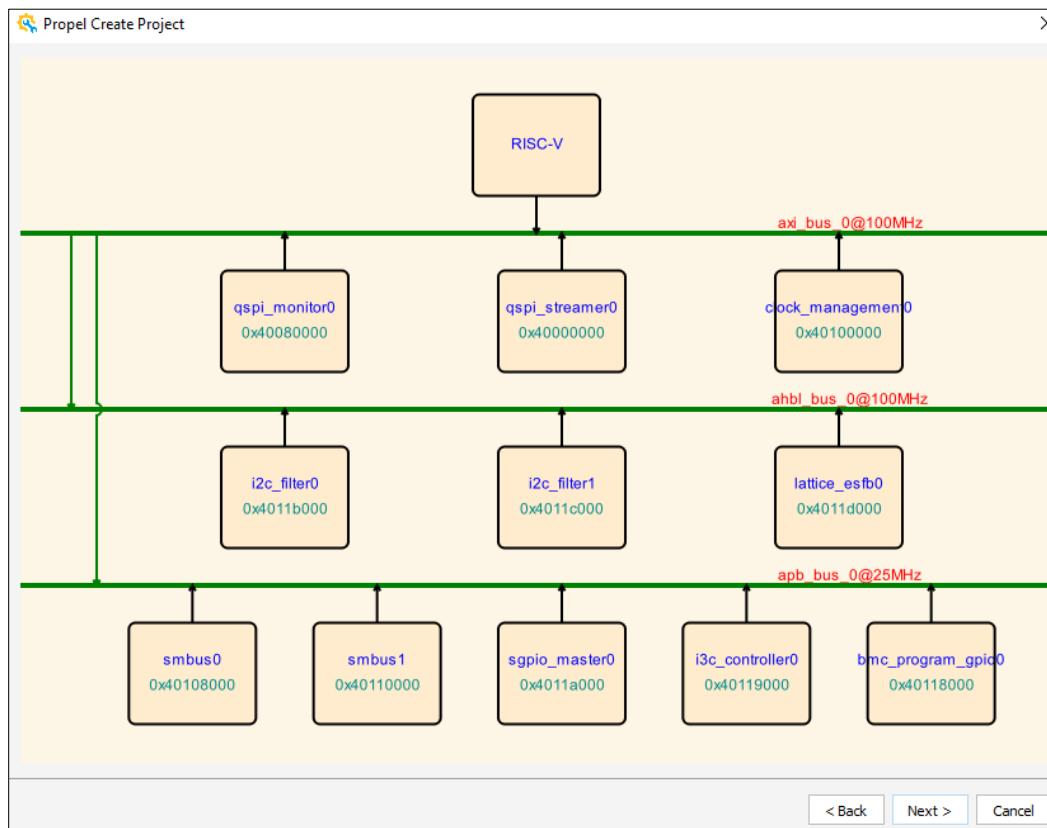

Figure 4.7. Create an SoC Project – SoC Sketch
9. The next dialog box shows the SoC sketch. Click **Next** and finish (Figure 4.7).